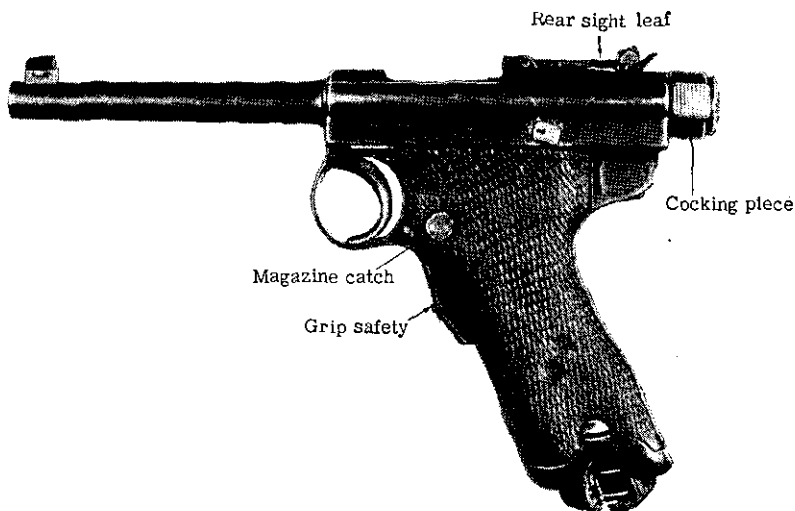
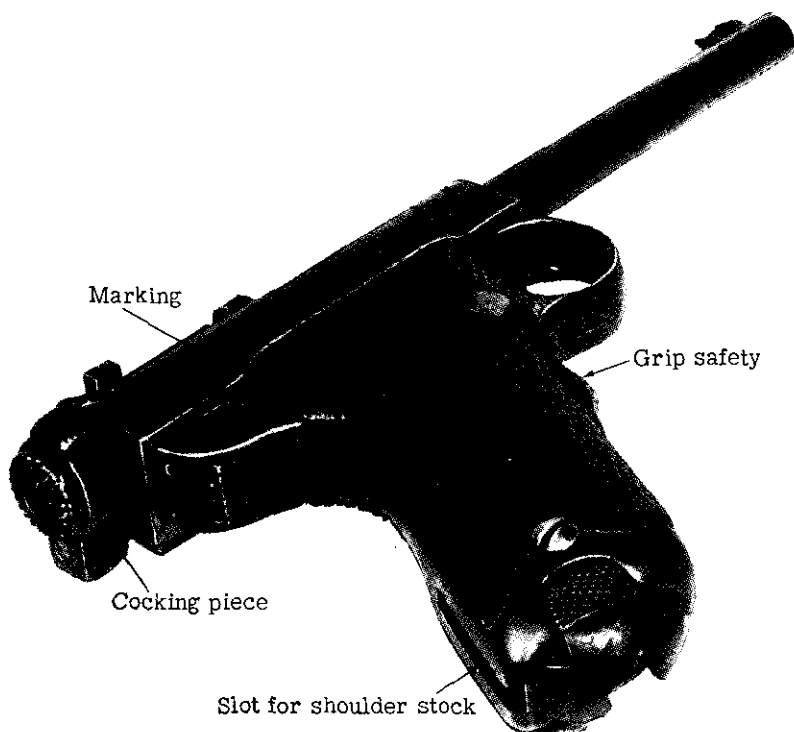

Figure 2.—*Nambu* 8-mm pistol (left side).
Figure 3.—Nambu 8-mm pistol (three-quarter view), showing marking on right side.
The *Nambu* 8-mm pistol (fig. 2), which is popularly called the *Nambu* pistol from the name of its designer,
- (1) The rear sight leaf.
- (2) The horizontal bulge (recoil-spring housing) on the left side of the receiver (see figs. 2 and 4).
- (3) The slot cut for the wooden combination shoulder-stock-holster at the heel of the butt.
- (4) The grip safety just below the trigger guard on the butt.
- (5) The marking 式部南 which is on the right side of the receiver at the rear (fig. 3). (This marking, which is read *Nambu Shiki* from right to left,³ means "Nambu model.")